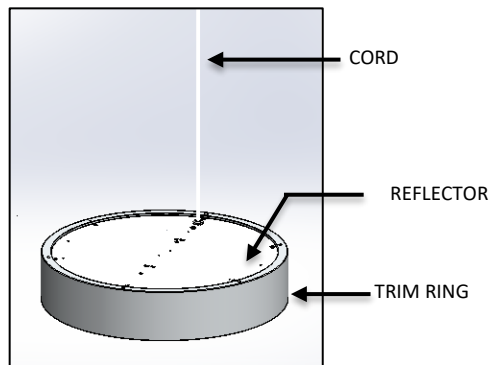

FIG. 2 TRIM RING
1. TRIM RING. (Pre-assembled with reflector and cord as shown in FIG. 2)